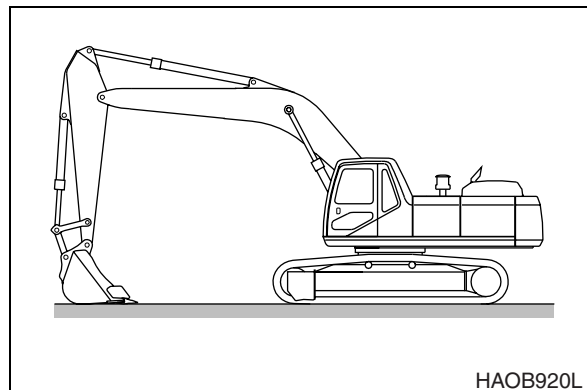

Figure 67
1. Park excavator on firm, level ground. Lower bucket to ground as shown in Figure 67.